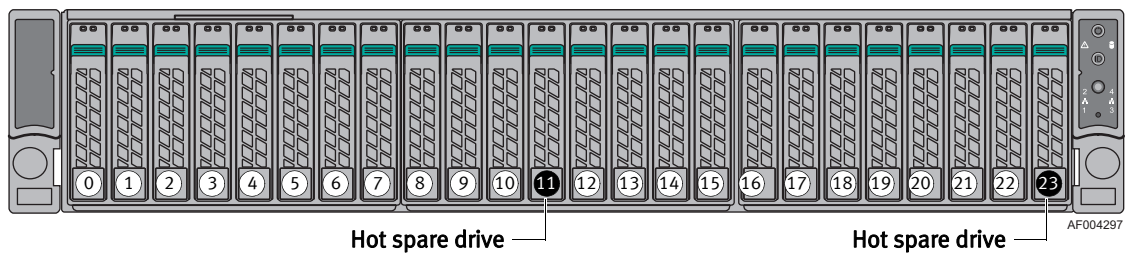

Figure 15 Segment server drive slot numbering
9. The Copyback operation should begin automatically when you insert the replacement drive. (For details about Copyback, see “Hot spare drives and the Copyback operation” on page 86.) Wait for the Copyback operation to complete. The hot spare drives always occupy **slot 11 and slot 23** in a 24-disk segment server (see Figure 15 on page 92).